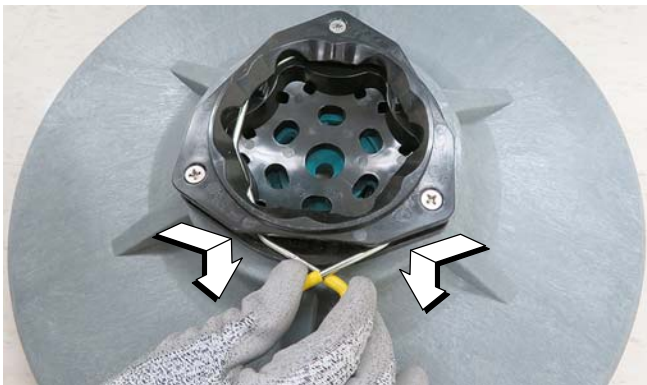

FIG. 13
3. Set the yellow spring clips to the open position to make brush installation easier. Press spring clips together then downward to set (Figure 13).